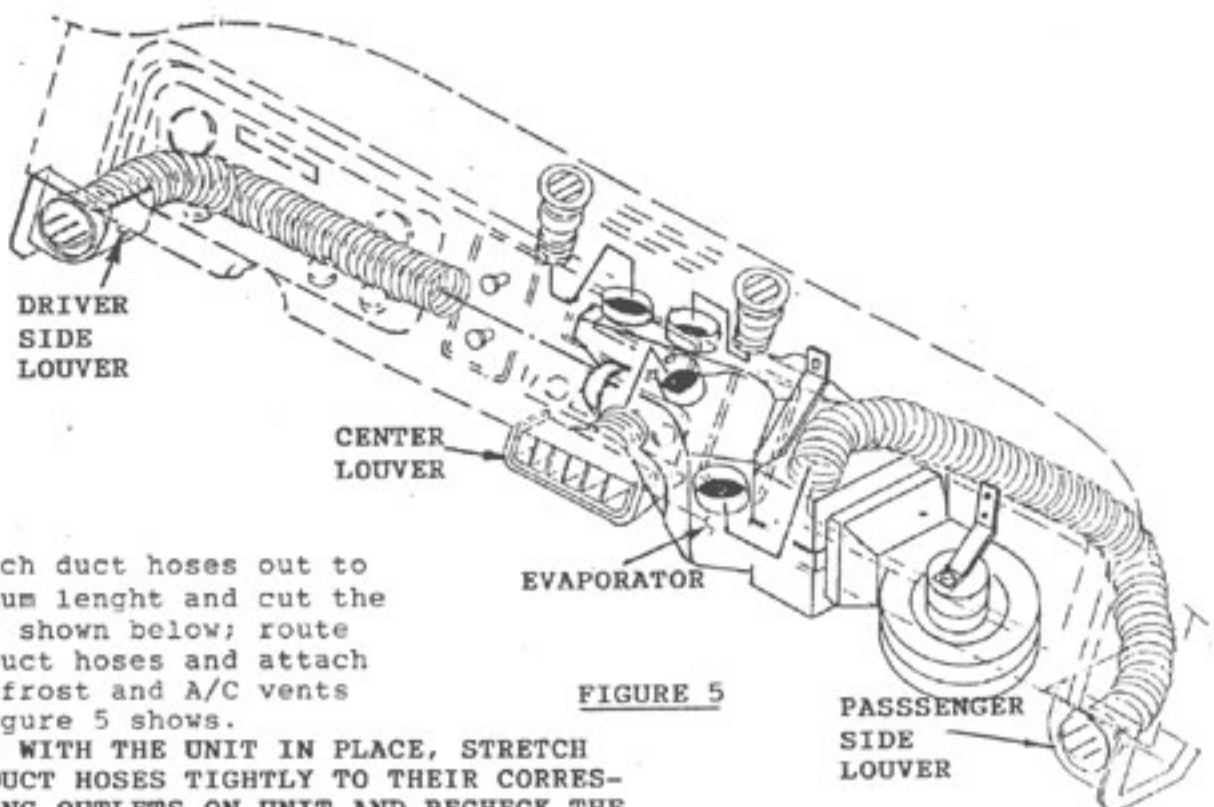

FIGURE 5
9. stretch duct hoses out to maximum length and cut the sizes shown below; route all duct hoses and attach to defrost and A/C vents as Figure 5 shows.